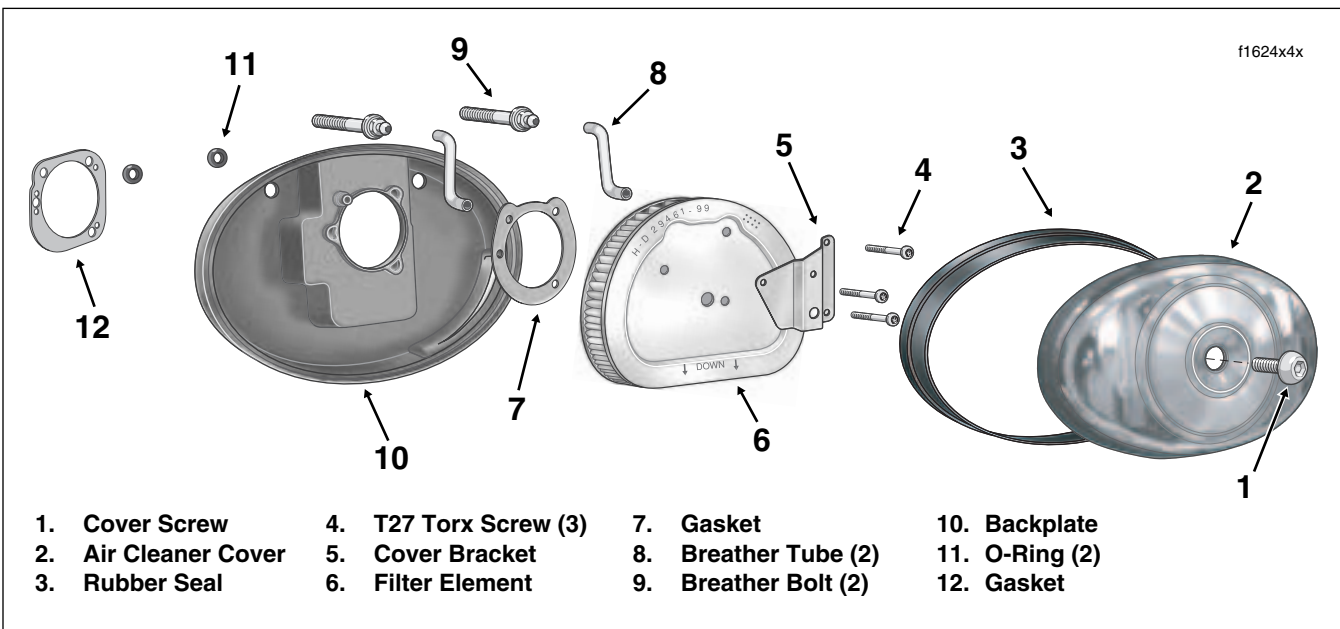

Figure 4-13. Air Cleaner Assembly
1. Remove large allen head socket screw in center of air cleaner cover. Remove air cleaner cover with rubber seal. See Figure 4-13.